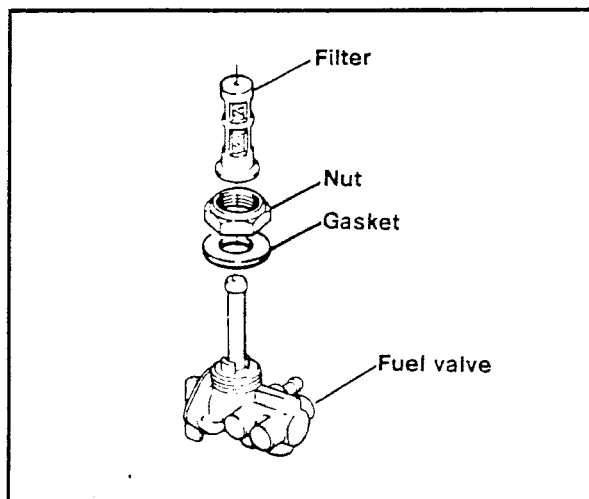

Figure 3-17. Fuel Valve
1. See Figure 3-17. The fuel valve may be removed from the tank by unscrewing the valve fitting.